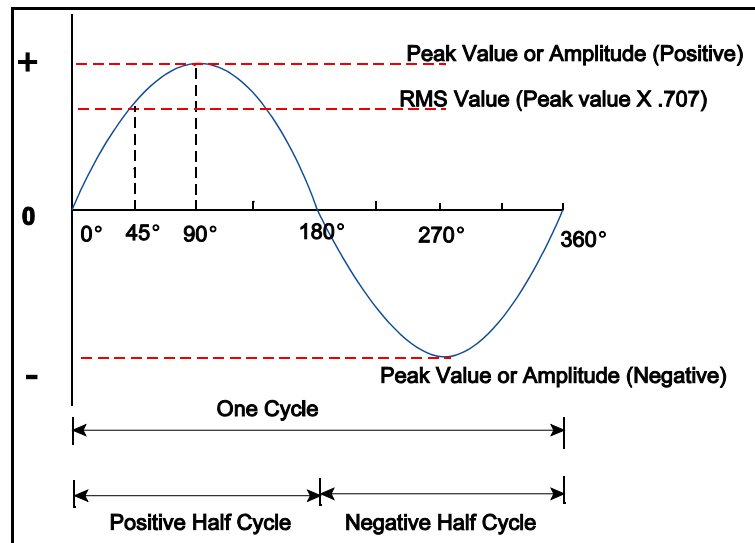

Figure 11.5 AC Terminology
- **Amplitude or Peak Value.** The amplitude of a sine wave is the maximum value it attains in one cycle, see Figure 11.5